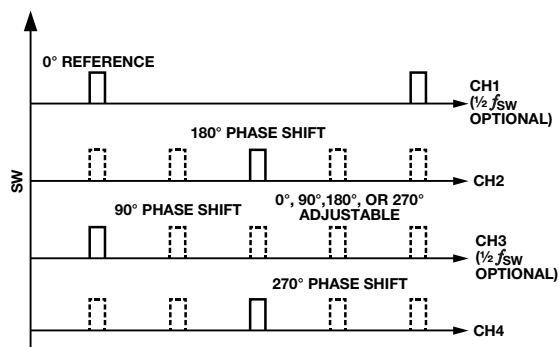

Figure 11. Phase shift of the buck regulators in the ADP5050/ADP5052.
**Buck Regulator Phase Shifting:** The phase shift of the buck regulators can be programmed via the I2C interface. By default, the phase shift between Channel 1 and Channel 2 and between Channel 3 and Channel 4 is 180°, as shown in Figure 11. The benefit of out-of-phase operation is reduced input ripple current and less ground noise on the power supply.